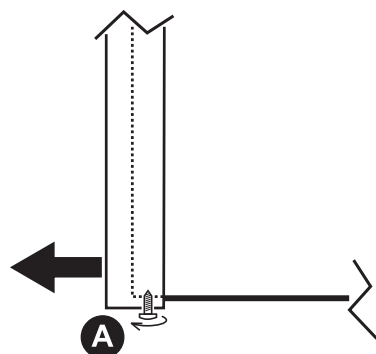

fig. 28
1. Using a screwdriver, partially unscrew the 2 screws "A" (fig. 28)